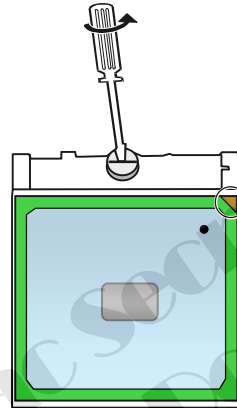

Figure 2-8 Remove the CPU
4. To remove the existing CPU, loosen the screw by a flat screw driver, upraise the CPU socket to unlock the CPU. (Figure 2-8)